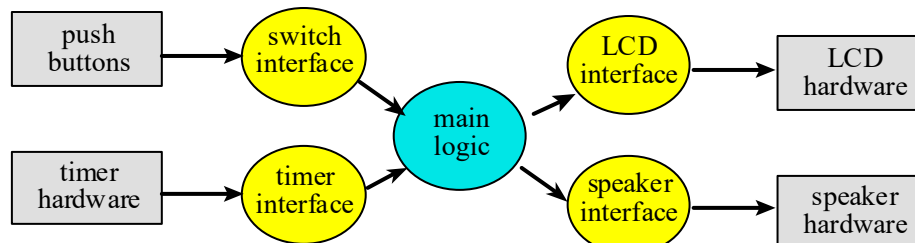

Figure 3.1. Data flows from the timer and the switches to the LCD and speaker.
4) Write one main program that implements the digital alarm clock. Figure 3.1 shows the data flow graph of the alarm clock.
If you organized the system different than Figure 3.1 and 3.2, then draw its data flow and call graphs